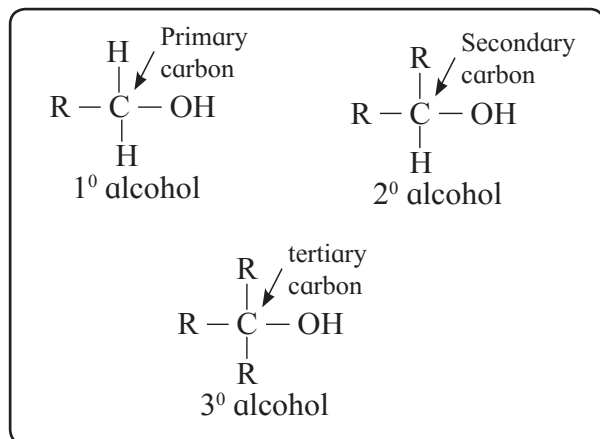

Fig. 11.1 : Primary, secondary and tertiary alcohols
a. Alcohols containing $sp^3C - OH$ bond : In these alcohols -OH group is attached to a sp^3 hybridised carbon atom of alkyl group. These alcohols are further classified as primary (1°), secondary (2°) and tertiary (3°) alcohols in which -OH group is attached to primary, secondary and tertiary carbon atom respectively. (see Fig. 11.1), also refer to Std. XI Chemistry Textbook Chapter 14, sec. 14.3.2)